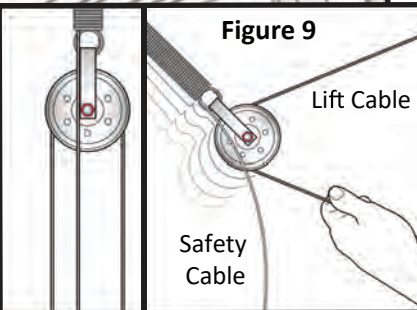

Figure 9
Step 6: Attach the other end of the Extension Spring(s) to the right side Eye bolt (Fig 9).
Step 10: Run the Lifting Cable back to the Pulley attached to the spring and loop the cable under the pulley, going through the Sheave (Fig 9).